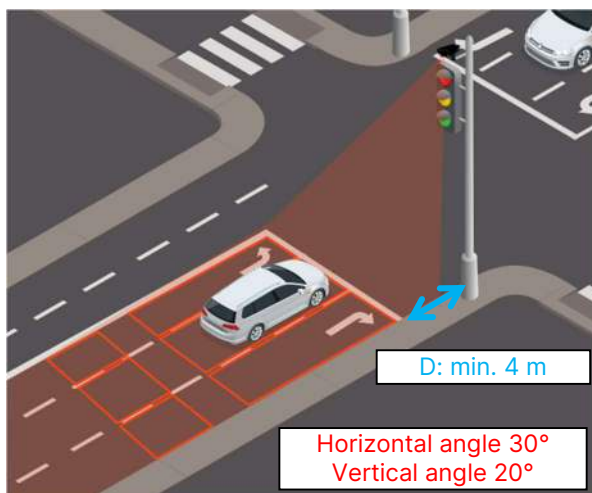
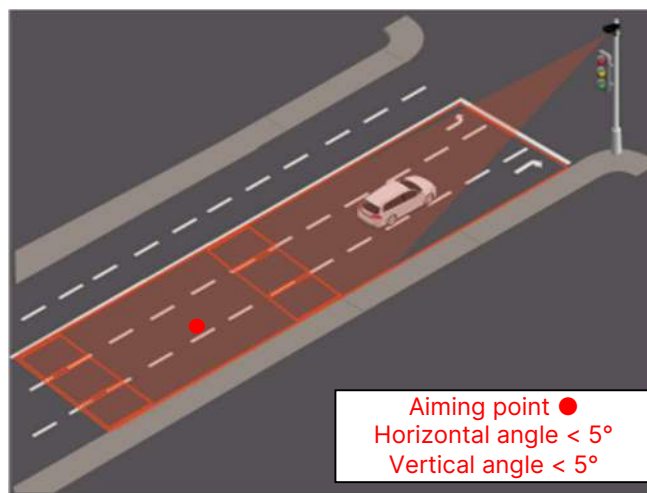

Figure 12: Stop-line + far detection, 3 lanes- Side installation
Figure 13: Far detection (up to 110 m) Side installation
- Stop-line detection (see Figure 12 and title 3.2, p. 9)
- Distance between pole and the stop-line (D): minimum 4 m
- Far detection (up to 110m, see Figure 13 and title 3.2, p. 9)